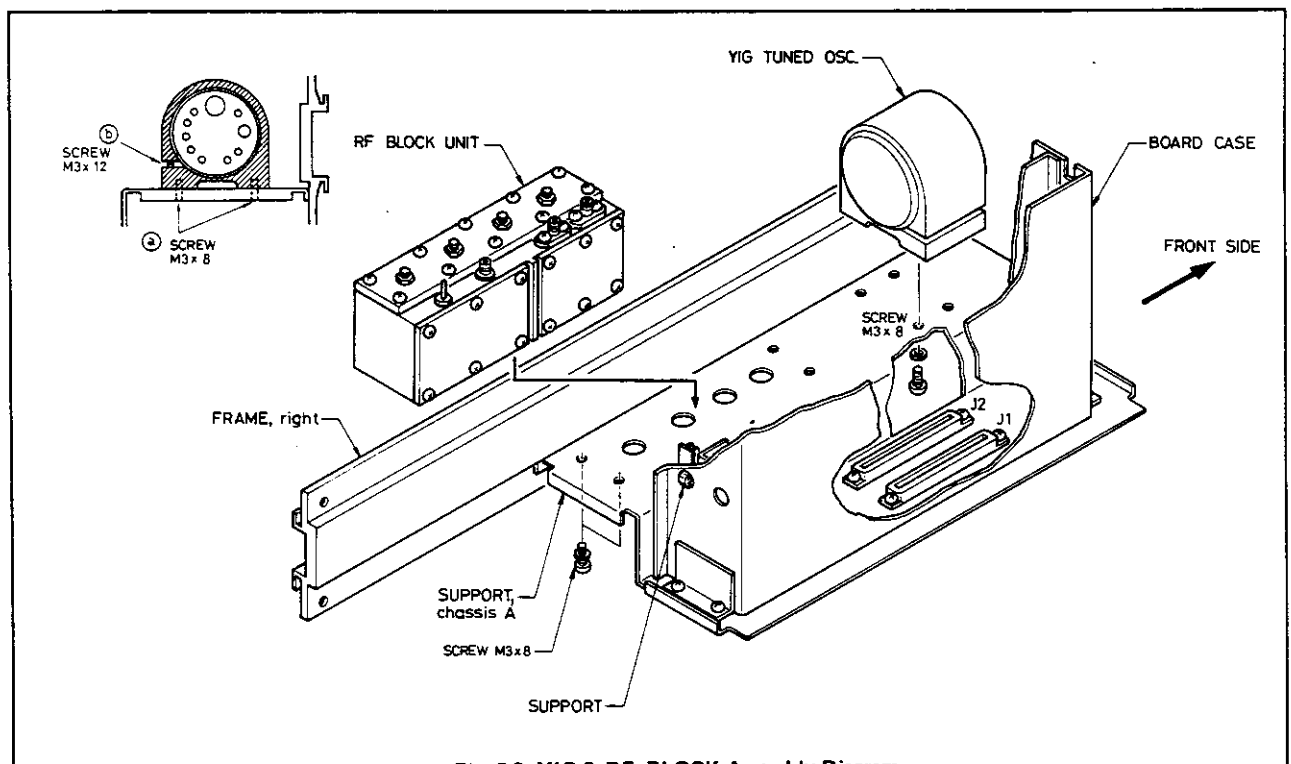

Fig. 6-9 YIG & RF. BLOCK Assembly Diagram
- 2) In removing **RF. block**, loosen 4 pieces of the screw ③ in [Fig. 6-9].